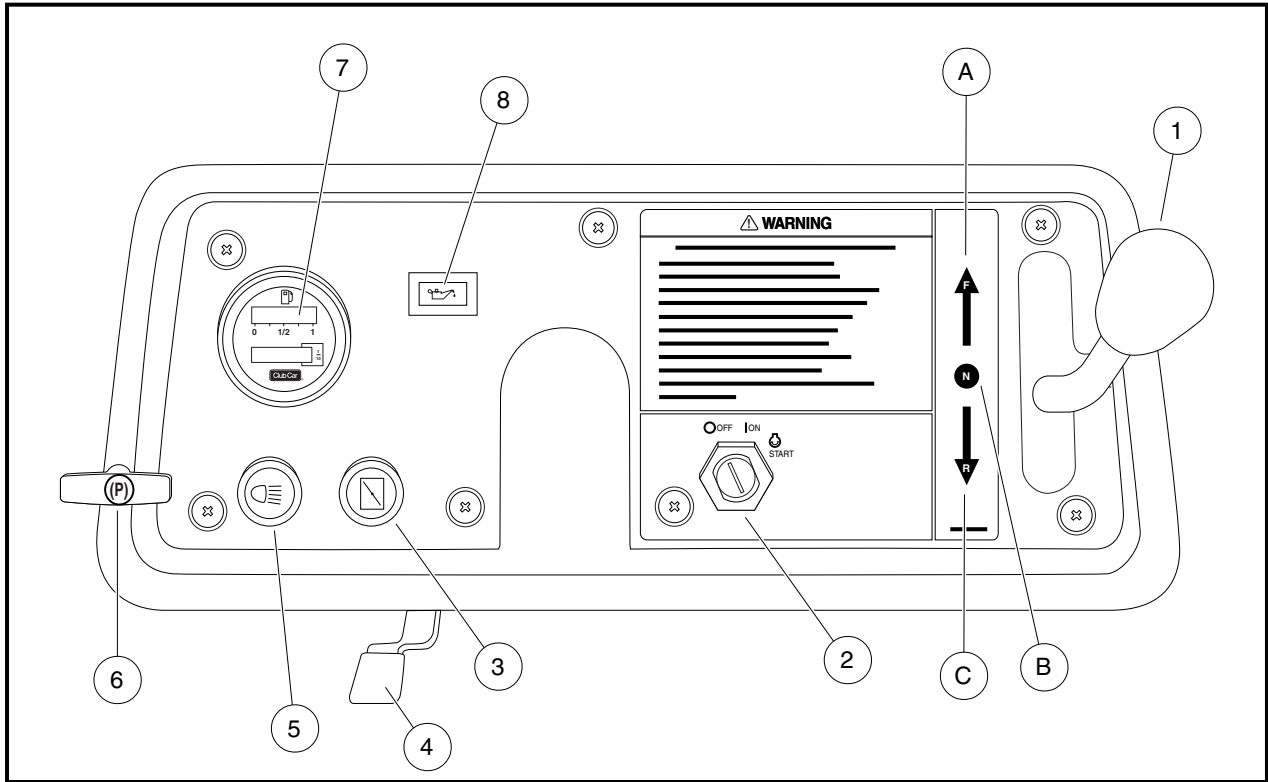
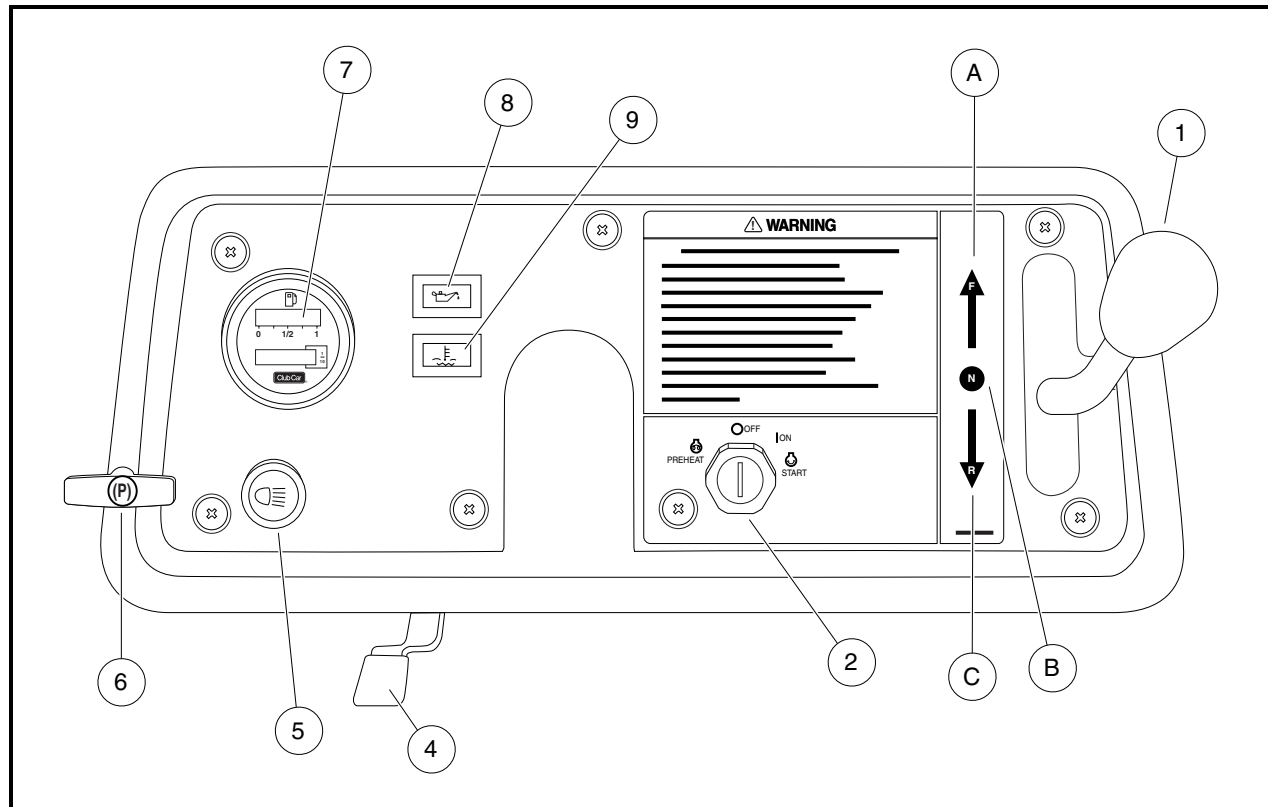

Figure 4 Instrument Panel – Gasoline Vehicles
Figure 5 Instrument Panel – Diesel Vehicles
The key switch (2) is mounted on the instrument panel to the right of the steering column (**Figure 4**). It has three positions: OFF, ON, and START. To start the vehicle, place the Forward/Reverse handle in the NEUTRAL position and turn the key all the way to the START position, activating the choke (3) as necessary, and hold until the engine starts. If the engine does not start after 10-15 seconds, release the key and repeat the procedure. Once the engine starts, release the key and it will return to the ON position. The engine will idle in neutral. The engine will continue to idle until the key is turned to the OFF position. **See following WARNING, CAUTION and NOTE.**
The key switch (2) is mounted on the instrument panel to the right of the steering column (**Figure 5**). It has four positions: PREHEAT, OFF, ON, and START. To preheat glow plugs in cold weather, turn the key to the PREHEAT position and hold for 10-15 seconds. Then turn the key all the way to the START position and hold until the engine starts. If the engine does not start after 10-15 seconds, return the key to the OFF position and repeat the procedure. Once the engine starts, release the key and it will return to the ON position. The engine will idle in neutral. The engine will continue to idle until the key is turned to the OFF position. **See following WARNING, CAUTION and NOTE.**
The Forward/Reverse handle (1) is located on right-hand side of the instrument panel. The handle has three distinct positions: FORWARD (A), NEUTRAL (B), and REVERSE (C) (**Figure 4 or Figure 5**). Push the handle up to operate the vehicle in the forward direction, or pull the handle down to operate the vehicle in reverse. The engine can be started only when the handle is in the NEUTRAL (middle) position. The engine must be at idle before shifting the Forward/Reverse handle. **See WARNING and CAUTION beginning on page 13.**
The low oil warning light (8) is located on the instrument panel just to the left of the steering column (**Figure 4 or Figure 5**). If the warning light comes on, oil should be checked and added to the engine as necessary before continuing to use the vehicle. The vehicle should never be driven when the low oil warning light remains on. If the warning light goes on and off, the vehicle may be driven, but oil should be added at the first opportunity. If the oil level is correct and the warning light stays on, have a trained technician check the vehicle. **See following CAUTION.**
The fuel gauge and hour meter (7) are housed together at the left side of the instrument panel (**Figure 4 or Figure 5**). The fuel gauge operates when the key switch is in the ON position, and allows the operator to monitor the fuel level in the vehicle. The hour meter operates only when the engine is running, and should be used by the trained technician to track vehicle usage and determine when periodic service procedures are required. **See Periodic Service Schedule on page 30.**
The headlight control (5) is located on the left side of the instrument panel below the fuel gauge/hour meter (**Figure 4 or Figure 5**). Pull the headlight control knob out to turn headlights on and push the knob in to turn headlights off.
The steering wheel on the Carryall 294 vehicle is adjustable. To adjust the steering wheel, press down on the steering adjustment lock lever (4), then move the steering wheel to the desired position (**Figure 4 or Figure 5**). While holding the steering wheel in the desired position, pull up on the steering adjustment lock lever to firmly lock the steering column in position.
The choke (3) is located on the instrument panel to the left of the steering column. If the vehicle is hard to start in cool or cold temperatures, activate choke: Pull the choke handle out to activate. Release the handle when the engine begins to run smoothly (**Figure 4**).